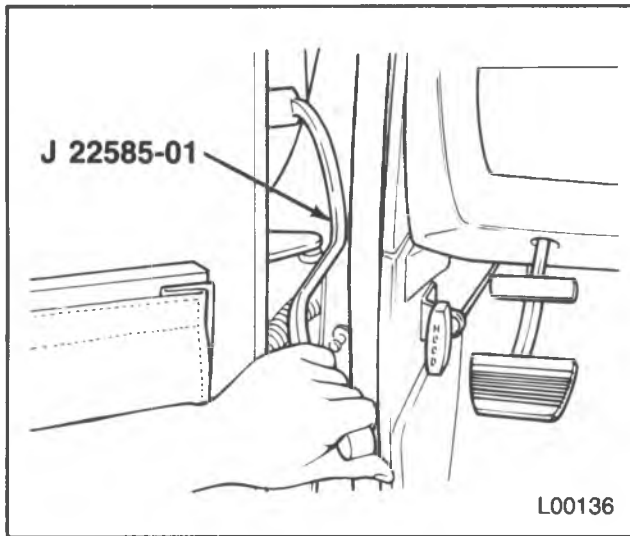

Figure 5 — Door Hinge Bolt Wrench
- Use tool J 22585-01 when loosening the door hinge to body side pillar bolts. The rear fender bolts may need to be loosened for access to these bolts (figure 5).